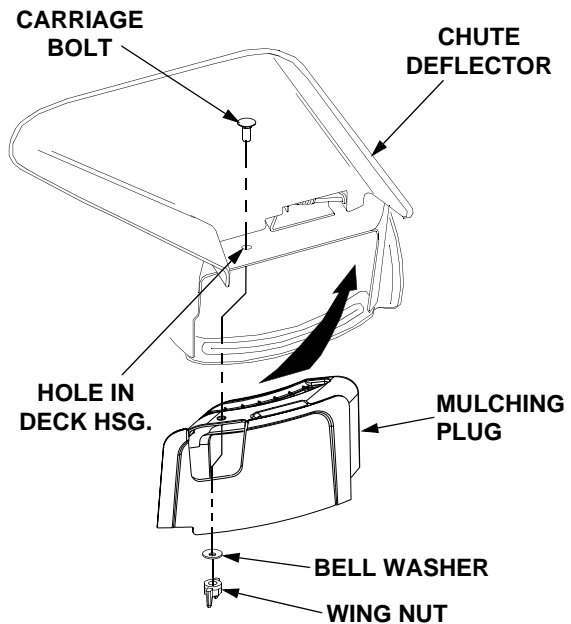

Figure 60
2. Lift the chute deflector upward and insert the mulching plug into the discharge opening of the deck (Refer to Figure 60).
3. Position the mulching plug so that its top hole aligns with the hole in the top of the deck housing. Install the carriage bolt through both surfaces and secure with the bell washer and wing nut (See Figure 60).